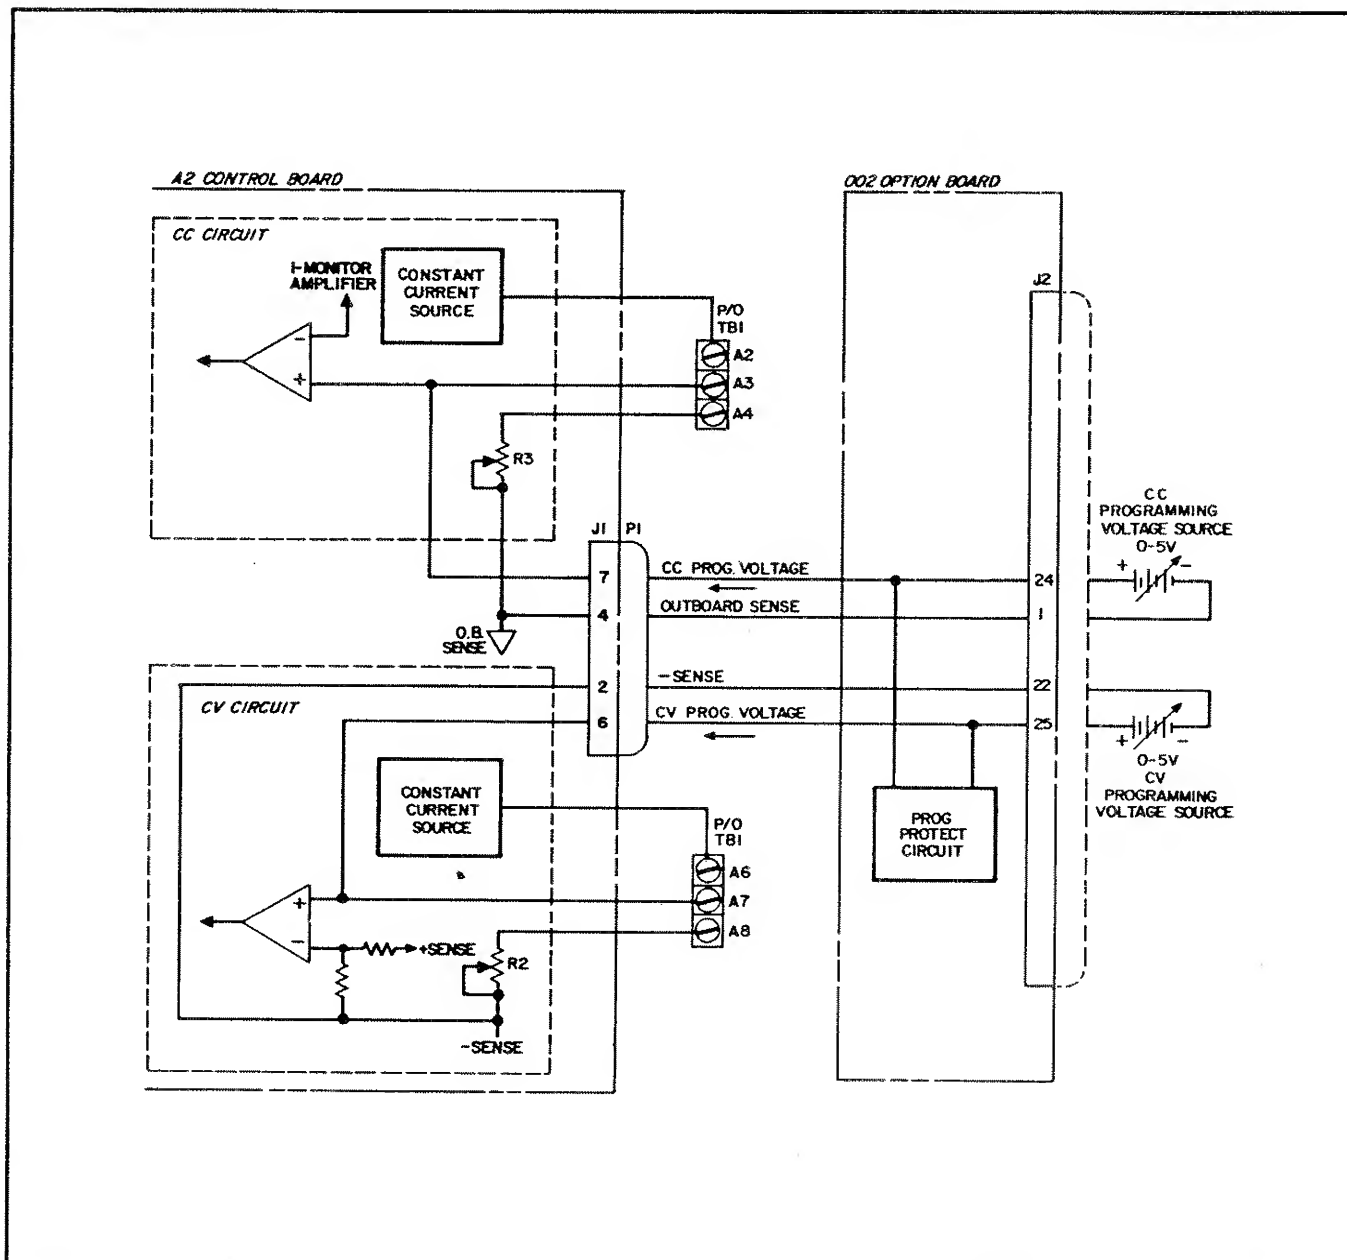

Figure A-4. Voltage Programming of Output Voltage And/Or Current
**A-23 Voltage Control (Figure A-4).** To program the sup-